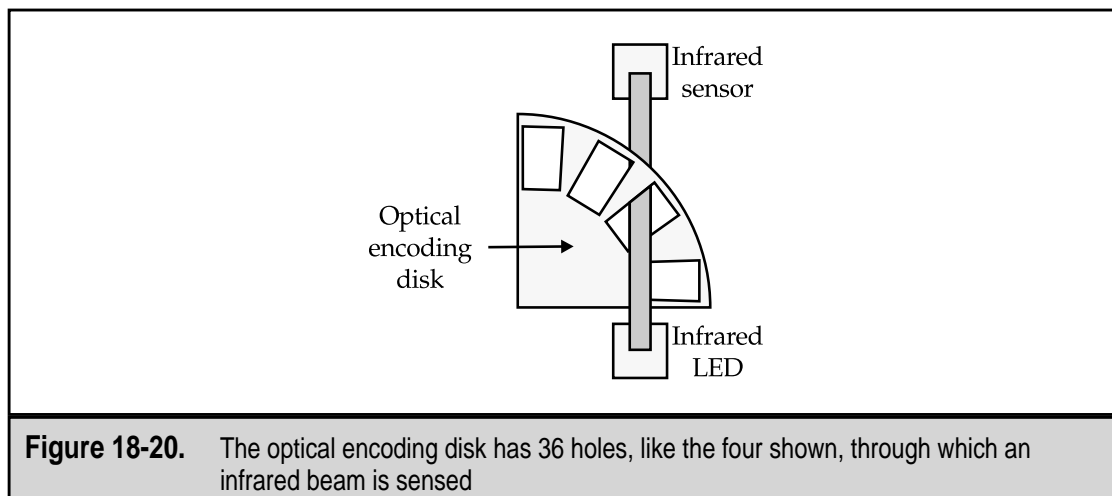
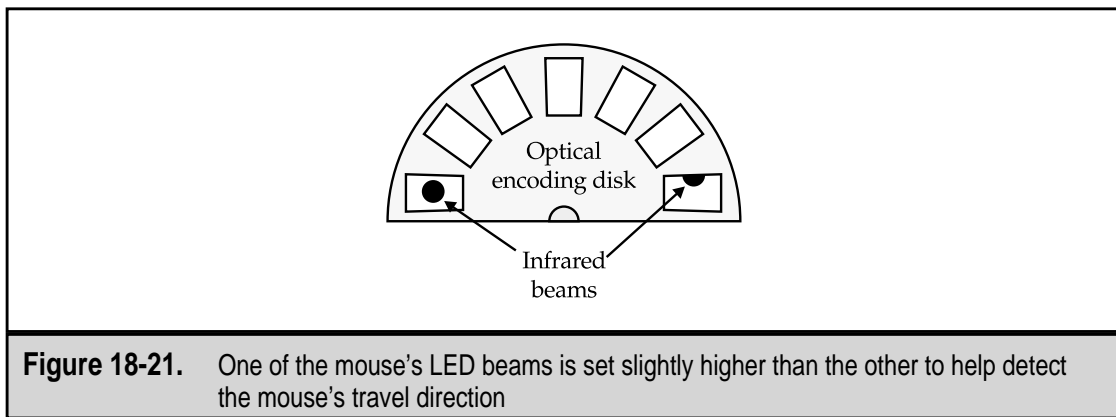

Figure 18-20. The optical encoding disk has 36 holes, like the four shown, through which an infrared beam is sensed
Figure 18-21. One of the mouse's LED beams is set slightly higher than the other to help detect the mouse's travel direction
- **Infrared LED and sensor** On one side of each optical encoding disk is a light-emitting diode (LED) that shines an infrared light beam on the disk. On the other side of the disk is a light-sensitive transistor that serves as an infrared sensor. As the disk turns, the solid areas between the holes on the disk break the LED's infrared beam and the infrared sensor sees pulses of light. The rate and duration of the light pulses indicate the speed and distance of the mouse's travel. Figure 18-20 illustrates the placement of the infrared LED and sensor to the optical encoding disk.
Although not shown in Figure 18-20, there is also a small plastic window placed between each LED and disk to aim the LED's infrared light beam so that the sensor can be focused on it. The plastic windows on each side of a disk are set at slightly different heights so that the sensors see light pulses at different times. Figure 18-21 shows the effect this has on the infrared light beams. As the disk rotates, the beams show through the disks' holes at slightly different times. The processor can detect the direction of the rotation (and the mouse) by which beam is detected first.